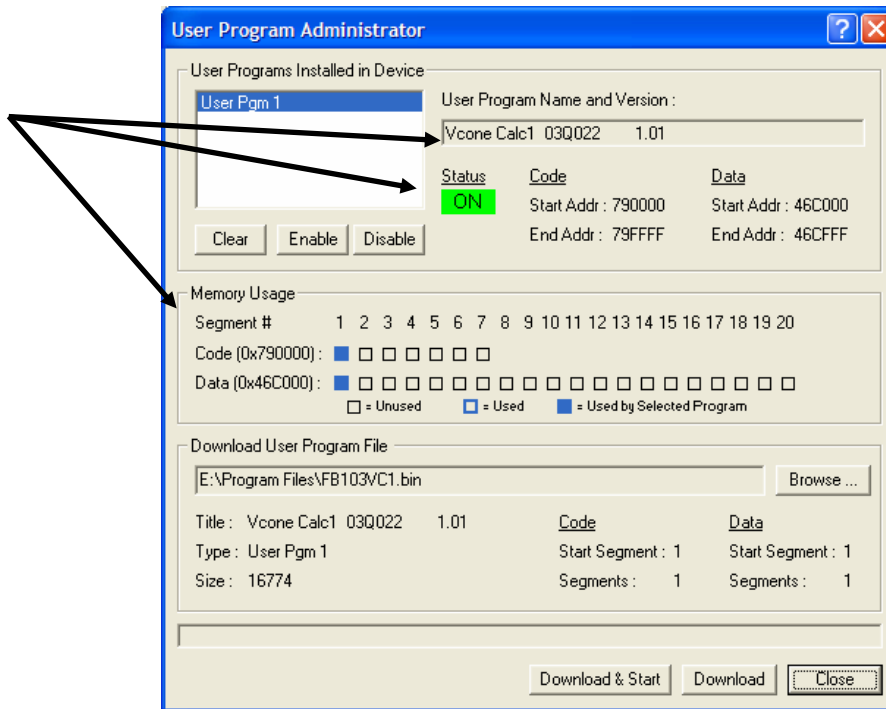

Figure 6. User Program Administrator
- Click **OK**. The User Program Administrator screen displays (see Figure 6). Note that: